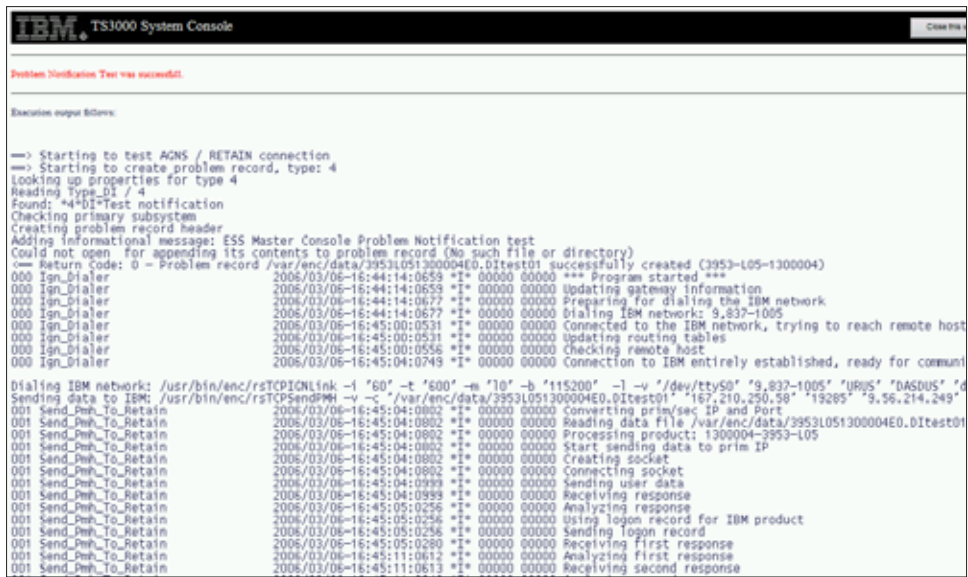

Figure 2-105. Test RETAIN Connection Results Screen - During Installation
7. Click **Test Problem Notification** in the right-hand panel to test the PMR path, or click **Test Data Upload** in the right-hand panel to test the data upload path. Details of the results of the test appear in the screen shown in Figure 2-105. If you changed a telephone number, click **Refresh** to refresh the display, then again perform Step 7.